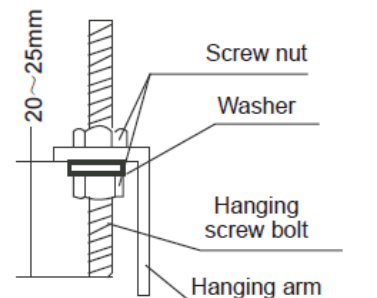

Fig. 16 — Locate the hanging arm
3. Locate the hanging arm on the hanging screw bolt (see Fig. 16).